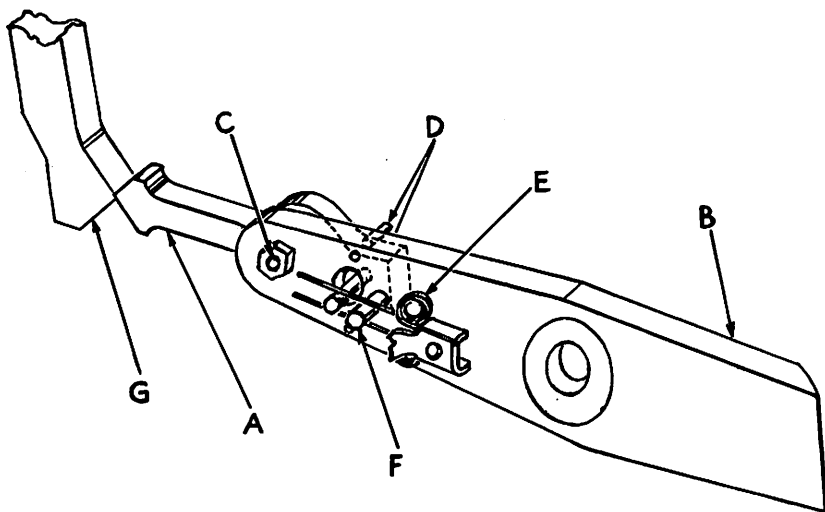

Fig. 8
The actuating lever dog (A, Fig. 8) is held on to the actuating lever (B) by a hinge screw (C). The amount of hinge of (A) on (B) is limited by two stop pins (D). The position of the dog (A) is controlled by the stationary spring (E) and stationary pin (F). The function of this